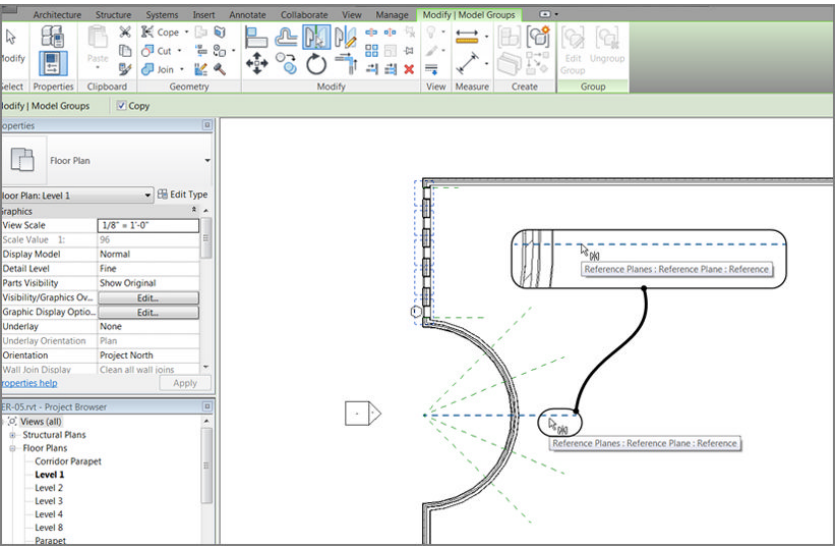

FIGURE 4.26: The line you're going to pick is the reference plane shown here.
4. Position your cursor over the center reference plane that is part of the Radial array. When you pause, a tooltip indicates that you're about to select the reference plane. When you see this tooltip, select the reference plane, as shown in Figure 4.26.